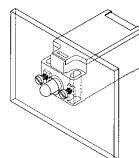

Fig. 3
- Front mounting (type dependant) (fig. 3)